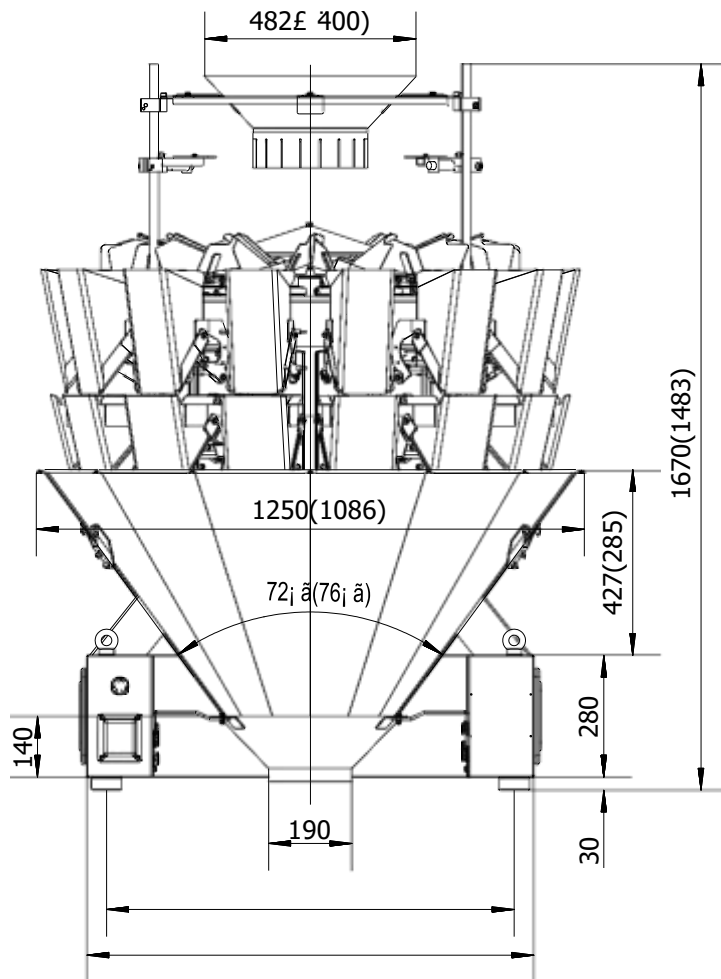

Fig3-2-1 HTMW-T2 (T1)
1. Assembly Dimension: Fig. 3.2.1-3